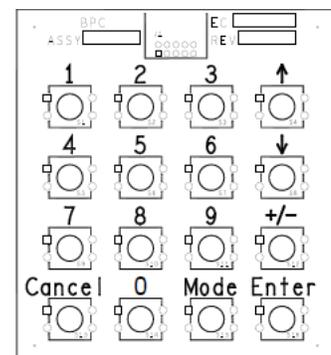

Figure C.3 – Manager's Keypad
6. Buttons **1** through **9** on the manager's keypad shown in Figure C.3 are used to select the desired menu code option. Press the **Mode** button on the keypad to enter the code. **Note:** Refer to the Programming section for more information.